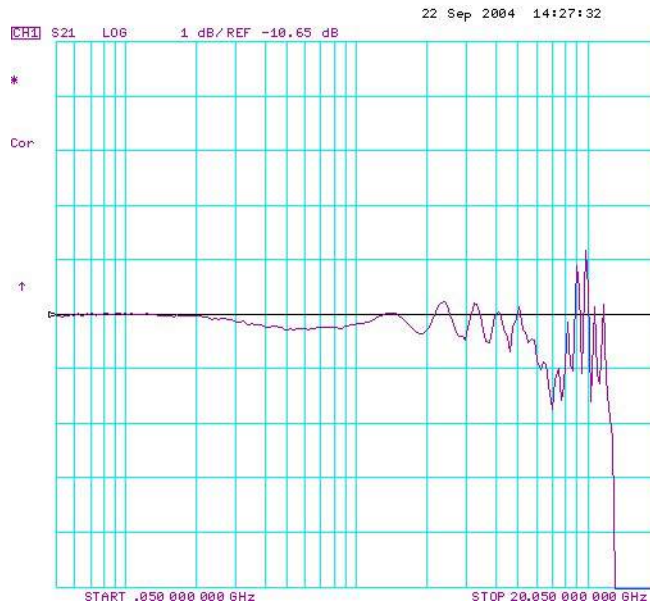

Figure 212 Typical V_{out} Waveform for an 1134B Probe
- 42 The display on screen is V_{out} and it should be similar to that shown in **Figure 212**.